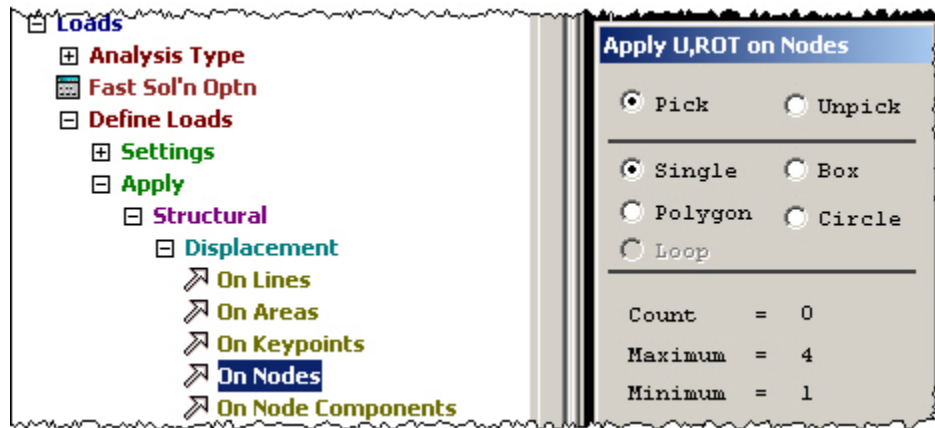

Figure 19 Preparing to graphically assign displacement restraints
1. **Main Menu**→**Preprocessor**→**Loads**→**Define Loads**→**Apply**→**Structural**→**Displacement**→**On Nodes** (see Figure 19).